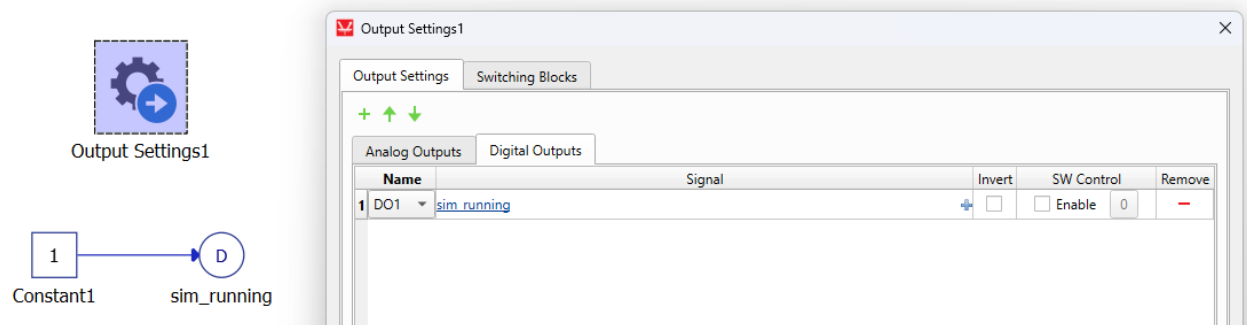

Figure 4. Reset signal - Initial settings
- Drive the same digital output (as configured in previous steps) only when the simulation enters the "running" state (this can be done by enabling *SW Control* in digital output settings and setting value to 1, or by applying a constant to digital output in Initial settings component (Fig. 4)).